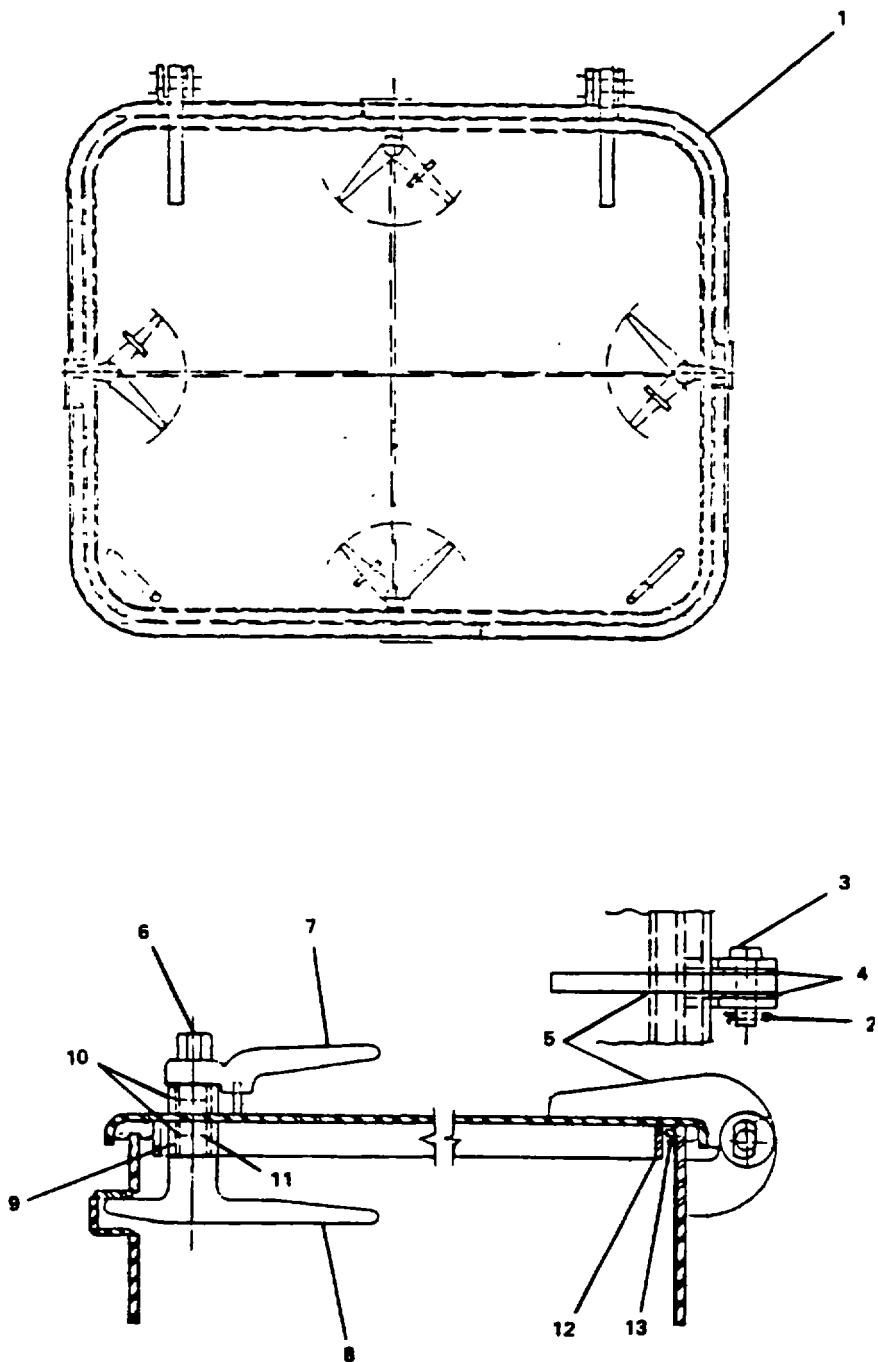

Figure 2-36. Replace/Repair Watertight Hatch.
- Open hatch (1, Figure 2-36).
- Remove cotter pin (2), pin (3), and washers (4) from hinge blade (5).